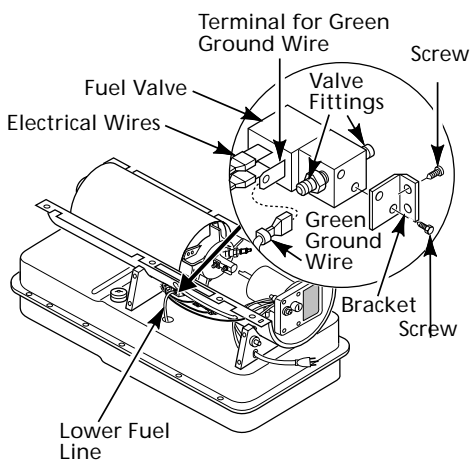

Figure 12 - Fuel Valve Replacement
3. Pull lower fuel line off the fuel valve fitting (See Figure 12).
4. Disconnect 3 electrical wires from fuel valve. Note location of green ground wire (See Figure 12).
5. Using 1/4" nut driver remove 2 screws holding fuel valve and bracket to lower shell (See Figure 12). Save these screws.
9. Connect wiring and upper and lower fuel lines to fuel valve. Make sure green ground wire is connected to correct terminal (See Figure 12).